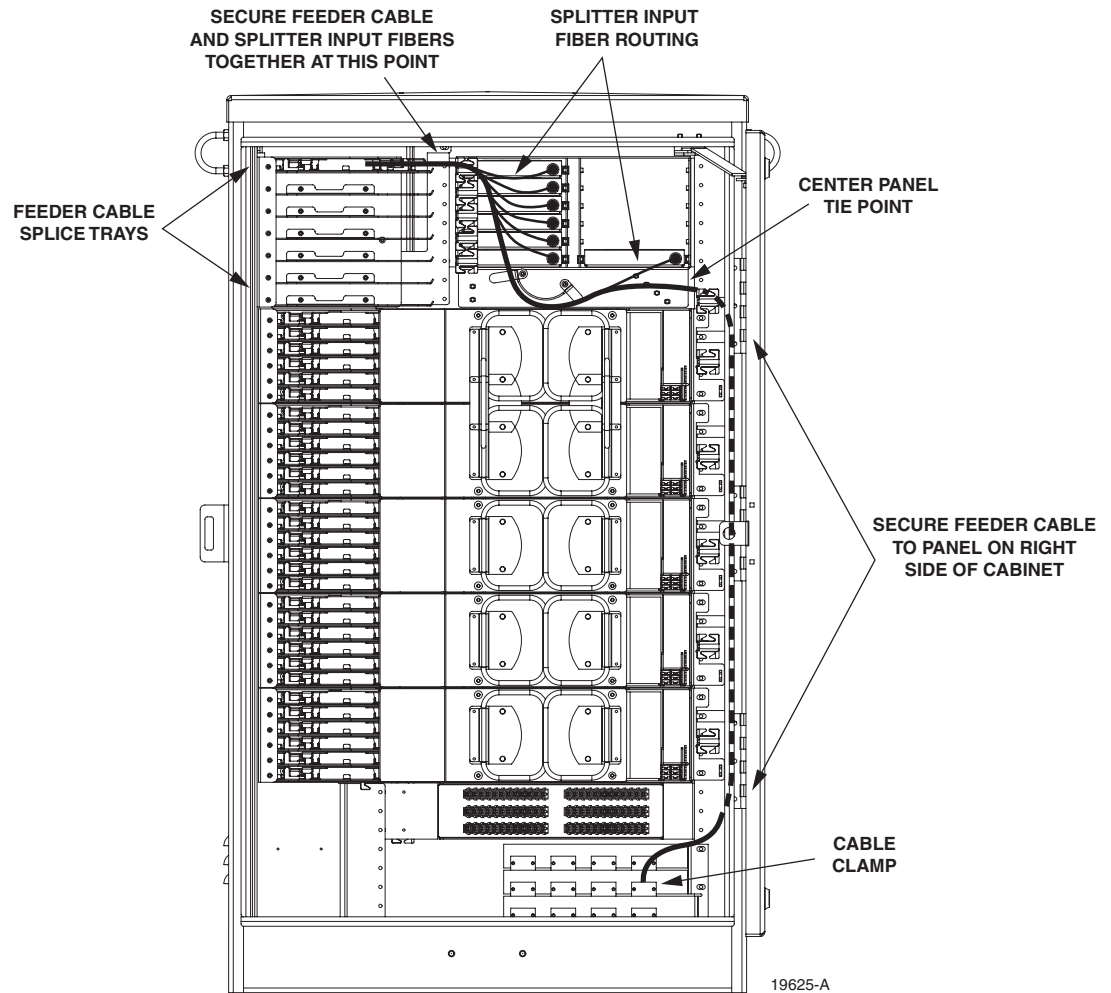

**Figure 14. Feeder Cable Clamping Positions**
- 4. Three cable clamping positions are provided for securing feeder cables as shown in Figure 14. Select one of the clamping positions as the attachment point for the cable.